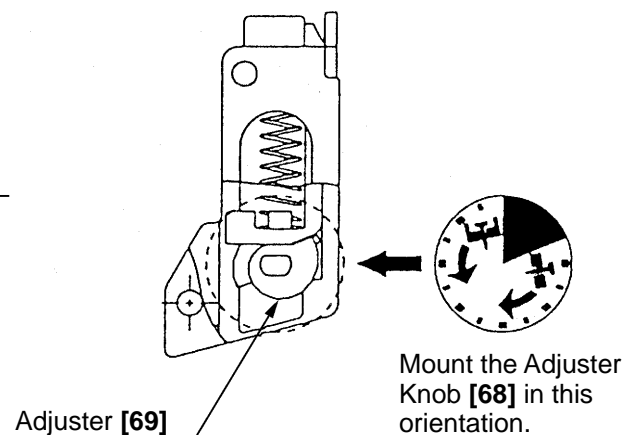

Fig. 16
- Mount the Adjuster [69] and the Adjuster Knob [68] as shown below (Fig. 16).
- Apply the provided oil (SHELL TONNA T32 Oil) to Pushing Lever (B) [31] and the Bolt Washer M4 [65] before reassembly.
- After reassembly, check that the Adjuster [69] and Pushing Lever (B) [31] operate smoothly.